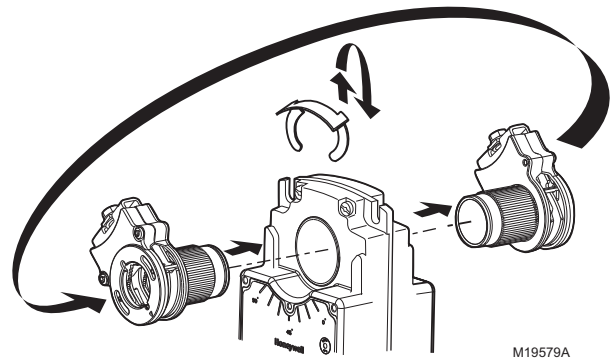

Fig. 24. Mounting shaft coupling to actuator opposite side.
- (1) Reposition reverse/direct acting switch, or
- (2) Remount actuator on the bracket.
- d. Move the actuator coupling to the opposite side of the actuator, as displayed in Figure 24.